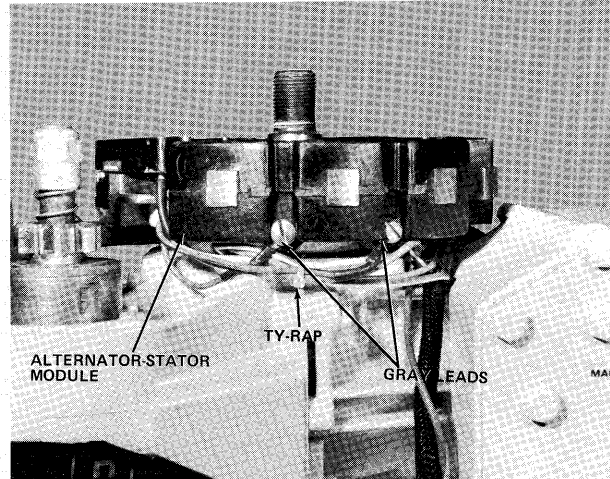

Figure 18 - Connecting Leads to Alternator Stator Module
- B. Install two (2) screws, lead wires and lockwashers to alternator stator module and tighten securely. See figure 18 for proper connection of leads.